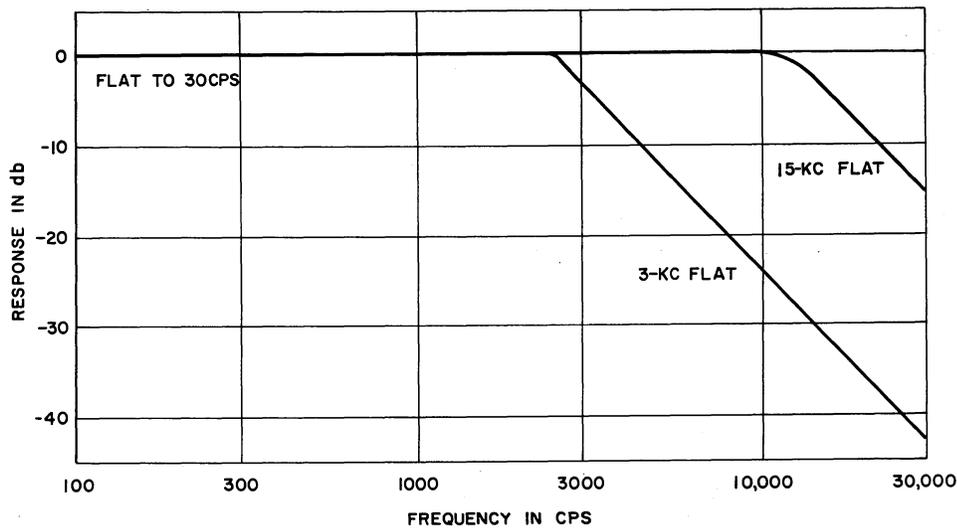

Fig. 7 - Flat Weightings
3.05 3-kc Flat: This weighting may be used when extra sensitivity is needed to indicate the presence of low-frequency noise (see Fig. 7). For example, one may find 25, 60, or 180 cps from power induction or 20 cps from ringing induction.